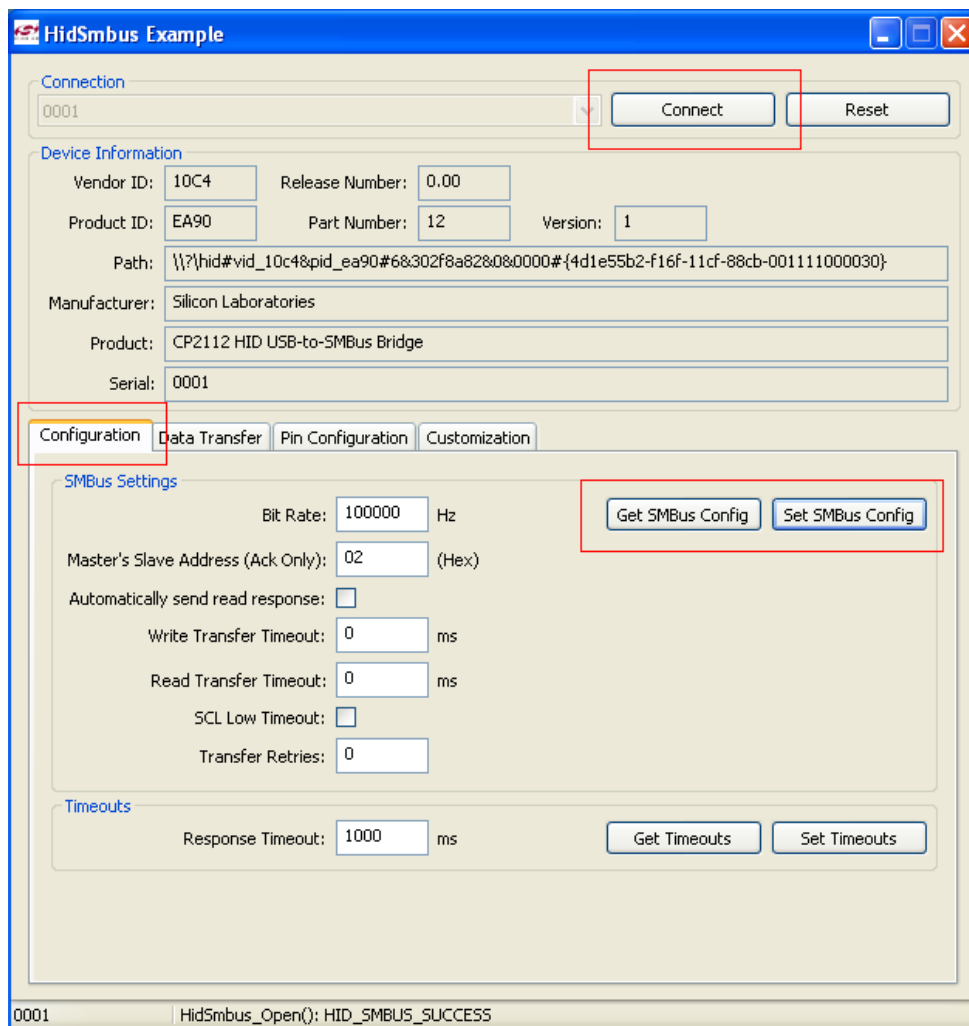

Figure 2. Configuration Tab
The HIDSMBus Example application uses the Windows CP2112 HID-to-SMBus DLL to transmit and receive data with the CP2112. The application also has access to the CP2112's GPIO pins. The HIDSMBus Example application is installed as part of the CD installation process. Figure 2 shows a screenshot of the Windows Application. The following steps describe how to start the application and use some of its features.
5. Figure 2 shows the Configuration tab, which allows you to get and set the SMBus configuration parameters. To set a parameter, modify the value that is in the corresponding text box or check/uncheck a box and click "Set SMBus Config". To verify that the settings took place, click "Get SMBus Config". These configuration parameters reset to their default values when the CP2112 is reset.